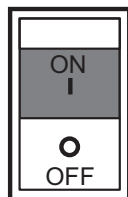

Figure 45. Circuit Breaker ON (GFCI Test)
2. Place the main circuit breaker (Figure 45) in the **ON** position.